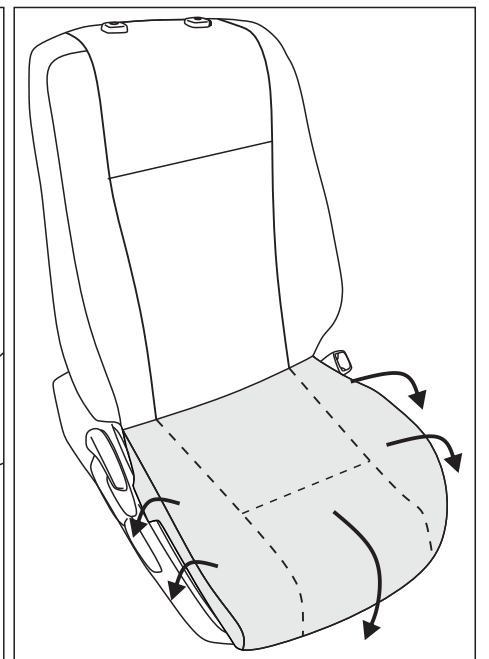

Fig.5
5. Roll base part of the cover over the seat base and align to seat contours (Fig.5)